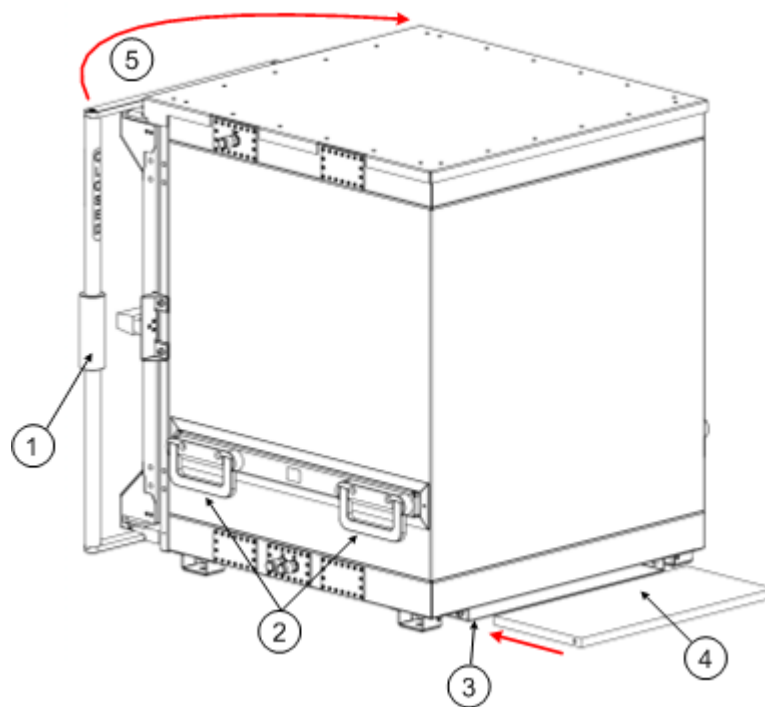

Fig. 3-2: Position of balancing weight
- Ensure that the balancing weight is in the slot at the back of the chamber and affixed by the two screws on either side. For more information see figure 3-2.
The RF Diagnostic Chamber is available with either left-hand front door mounting (selection R&S DST-S100A, order no. 1515.1396.02) or right-hand mounting (selection R&S DST-S100B, order no. 1515.1396.03). The two selections are symmetric to each other; figure 3-2 shows a door with a left-hand mounting (hinges on the left side).